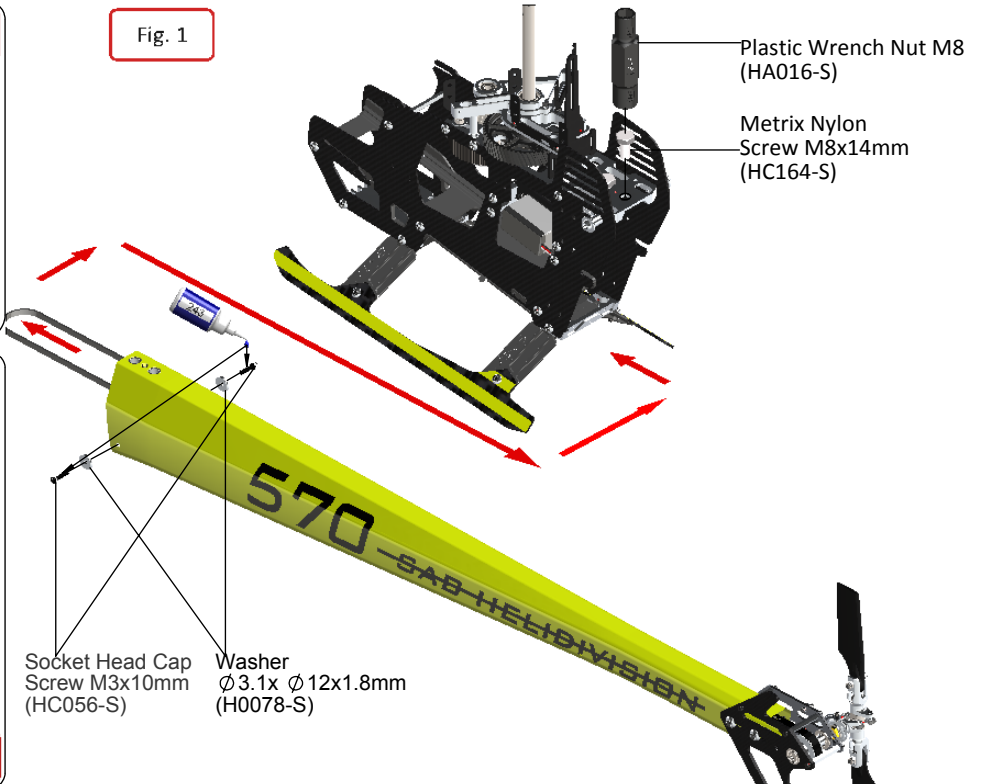

Fig. 1
- Insert the boom in place helping enlarging the frame ( Fig 1,2 ).